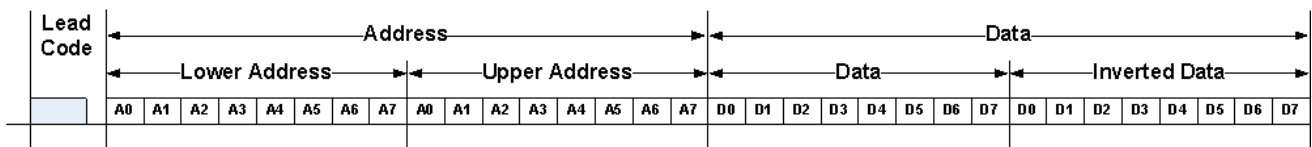

Figure 13. NEC Transmission Frame
1. The NEC transmission starts with an initial Command packet (Figure 13 shows the entire packet structure), which consists of: